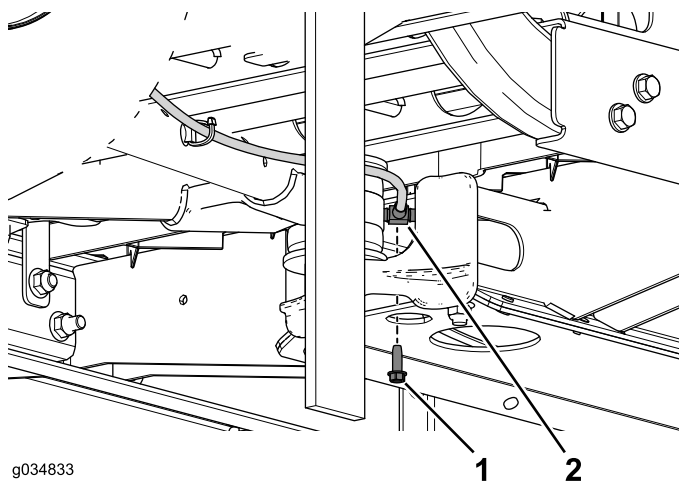

Figure 18
- Remove the self-tapping screw that secures the brake line tee fitting to the center channel (Figure 18).